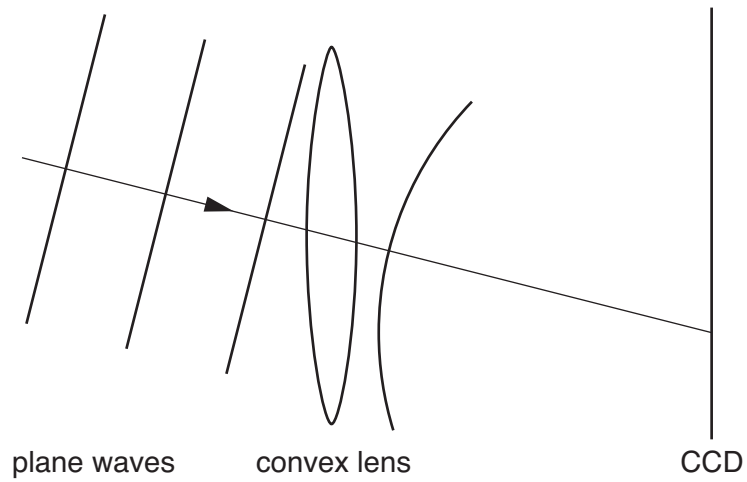

Fig. 7.1
- 7 Fig. 7.1 shows plane wavefronts (wavelength not to scale) from a point on a distant object approaching a converging lens in a digital camera.